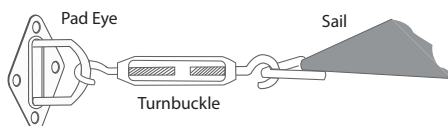

Fig. 9
- A.** Your Premium Shade Sail Kit includes the fixing accessories needed for installation (Fig. 9).